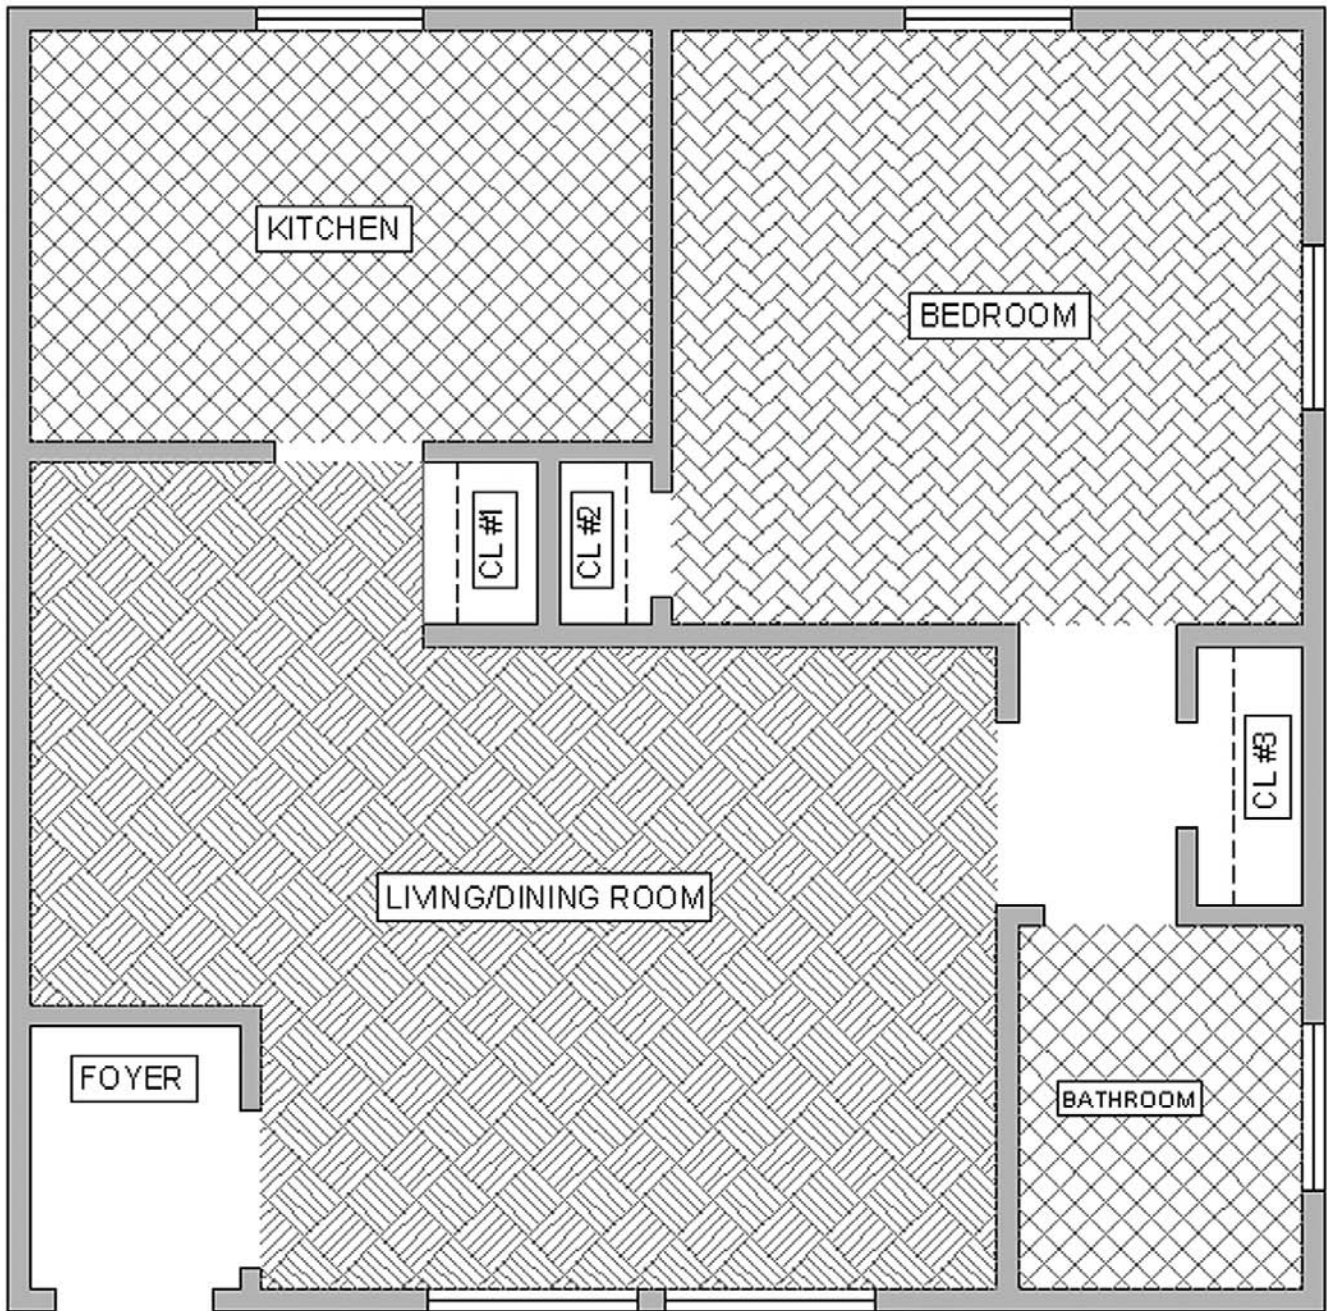

FIGURE 5.20
To fill in the apartment walls, freeze everything except the A-Walls and the hatch layer. Then use the solid fill, color 9 as described earlier. If you created everything properly, there should be no gaps or breaks in the wall islands. Check to make sure the windows are drawn correctly, meaning the wall has to have an actual closed gap, into which the window is inserted. Figure 5.19 shows what everything should look like *prior to wall hatching* (1) and *right after* (2). The apartment is shown in Figure 5.20.